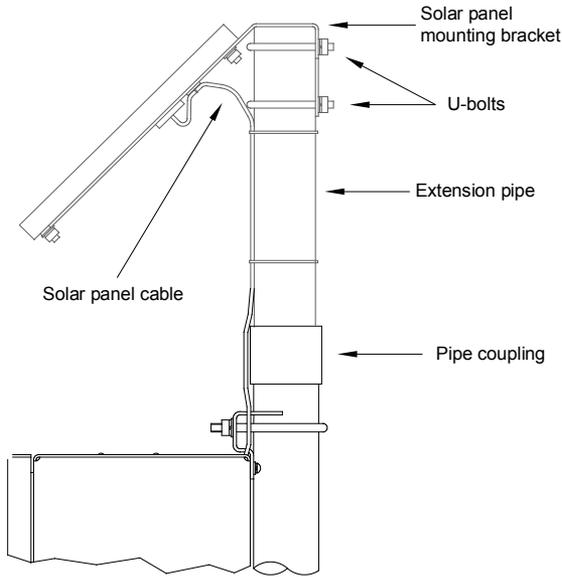

Figure 8: Solar panel installation
4. Attach the solar panel mounting bracket to the top end of the mounting pipe with the U-bolts and associated mounting hardware (Figure 8). Do not tighten completely.